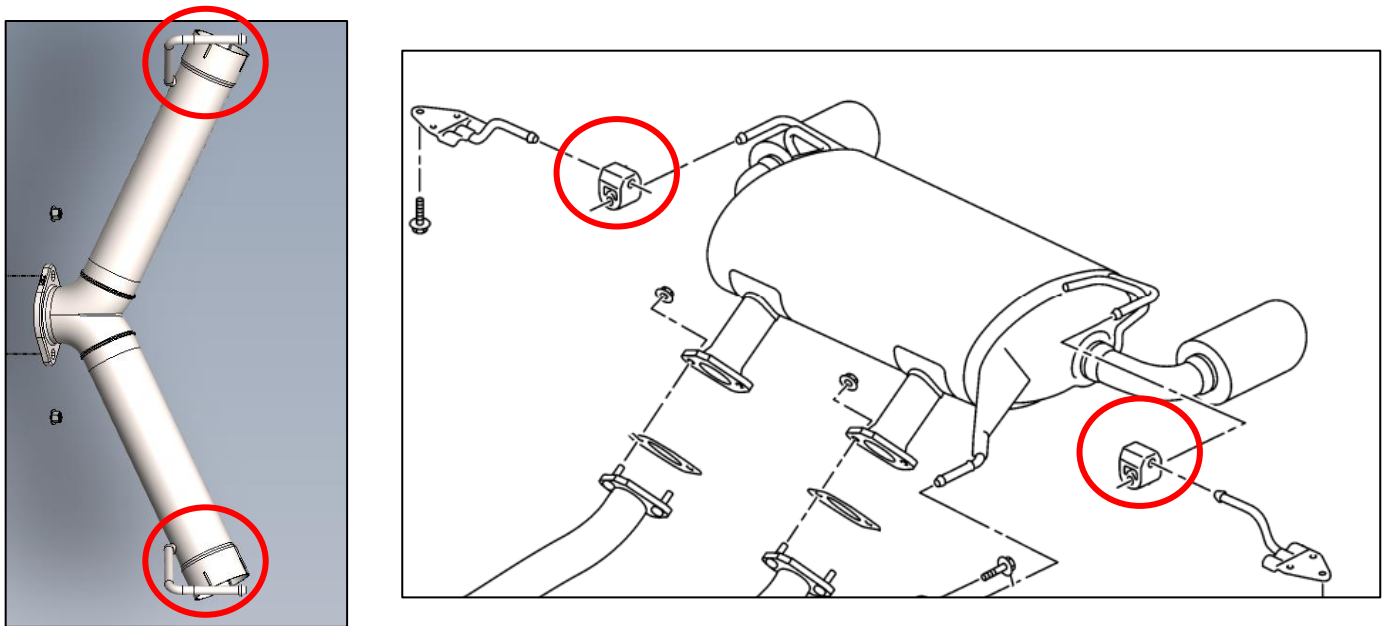

Figure 2
5. Locate the Straight Pipe Axle-Back and position it into the rear hangers of the vehicle. *Figure 2*.